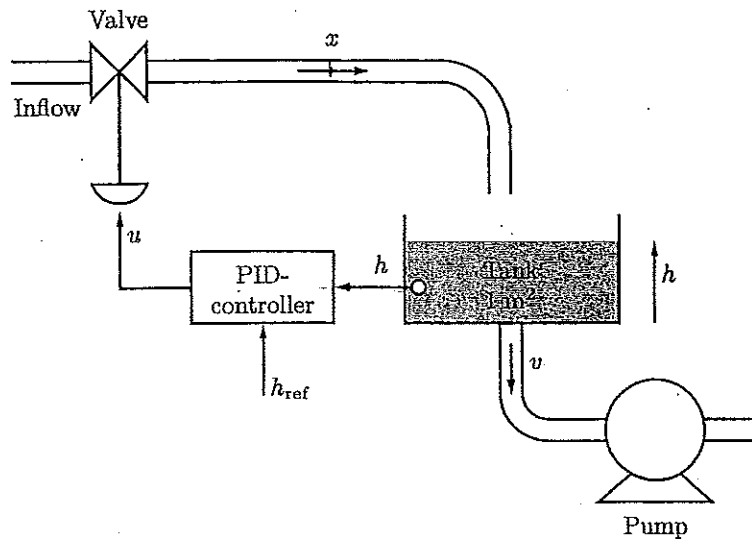

Figure 3.1a.
3.1 A feedback system for level control is shown in Figure 3.1a where all variables denote variations from a working point. The flow to the tank is given by the valve position and the outflow from the tank by the flow $v(t)$ via the pump. The transfer function from valve opening u to the flow x is denoted $G_v(s)$.